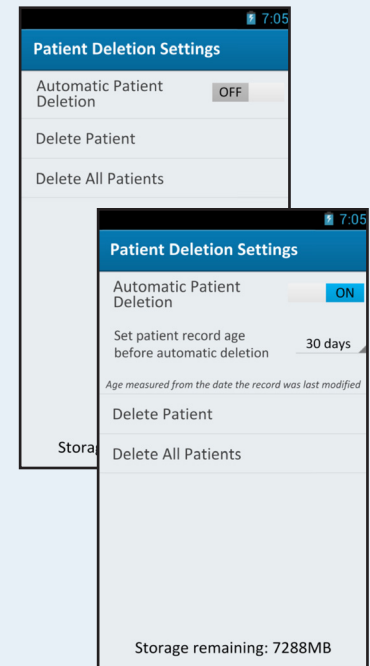

Figure 3-18:
2. Press **ADMINISTRATOR SETTINGS** and log in to the device. Press **Patient Deletion Settings** and the **Patient Deletion Settings Menu** will display (Figure 3-18).